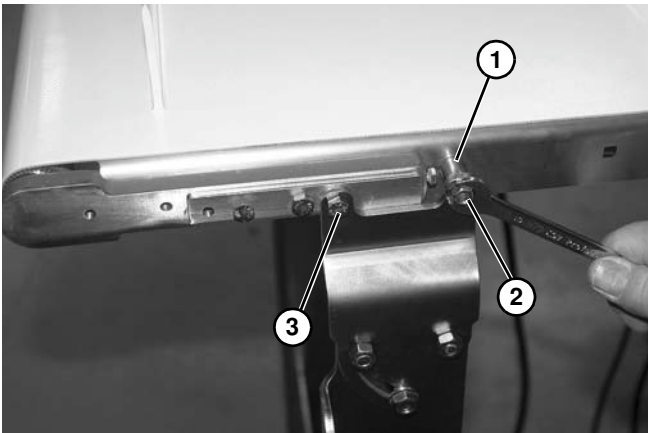

Figure 5
5. Drive End: Attach stand to the conveyor frame with one spacer (**Figure 5, item 1**) using a carriage bolt and nut (**Figure 5, item 2**), and a screw (**Figure 5, item 3**) on each side.